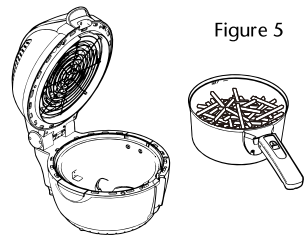

Figure 5
2. Open the Top Cover (9) and allow it to click and lock into position and remain open on its own. Grasp the Basket Handle (5) and lift out of the fryer. Place it onto a flat, heat-resistant surface. (See Figure 5)